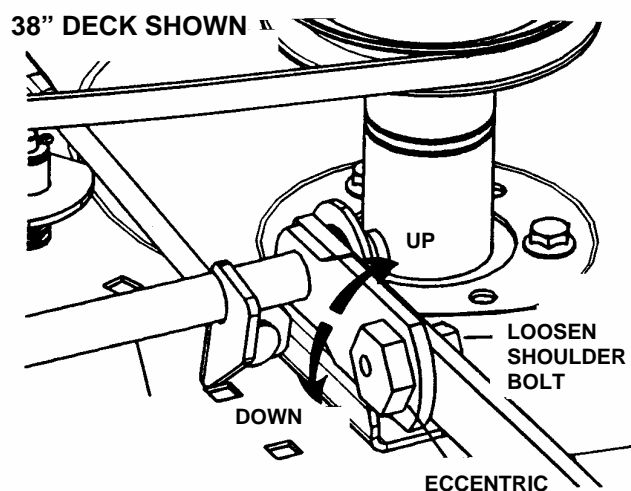

FIGURE 4.10
7. Turn eccentric "UP" or "DOWN" as required until blade tips are within $1/8"$ of the same distance from the floor. See Figure 4.10.